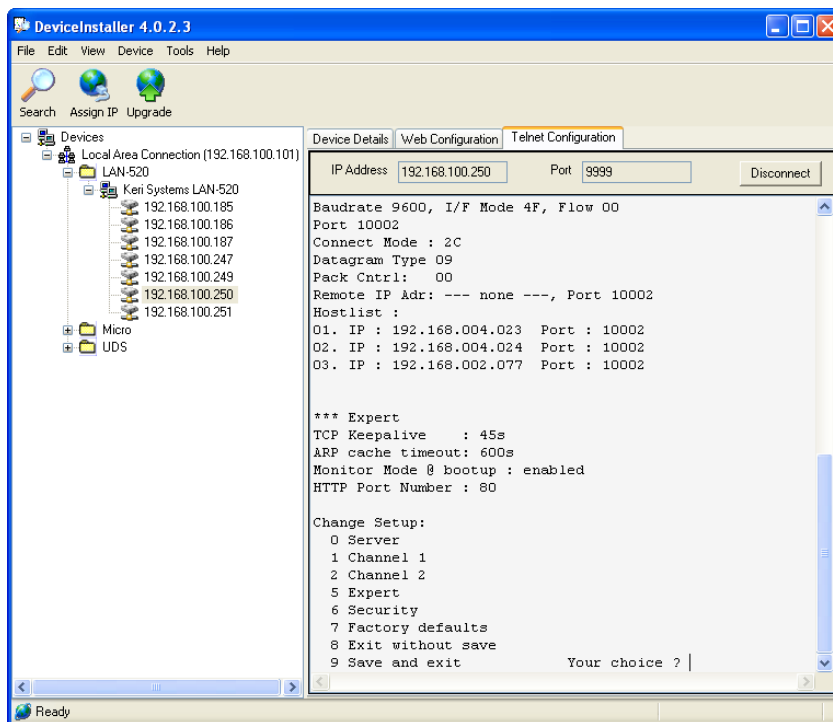

Figure 33: Telnet Configuration Main Window
- Press 1 <Enter> to enter the Channel 1 Configuration values. The first configuration parameter is displayed (see Figure 33).